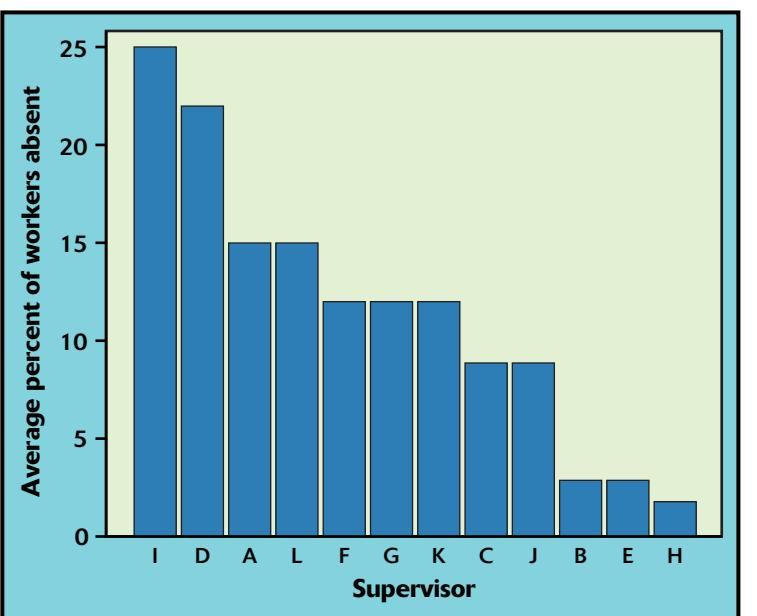

FIGURE 12.22 Pareto chart of the average absenteeism rate for workers reporting to each of 12 supervisors.
- A Pareto chart of average absenteeism rate for the past month broken down by supervisor (Figure 12.22) shows important differences among supervisors. Only supervisors B, E, and H meet your goal of 5% or less absenteeism. Workers supervised by I and D have particularly high rates.